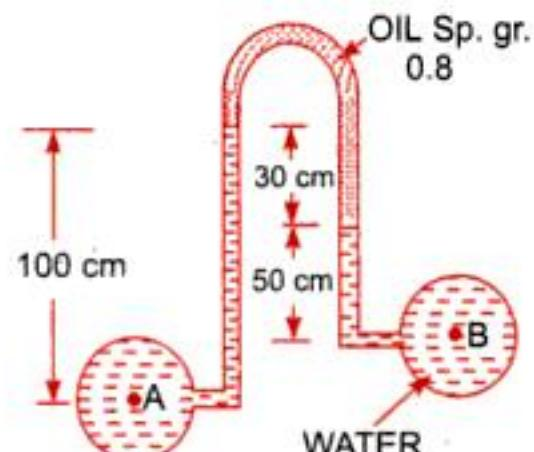

Fig. 2.26
16. In above Fig. 2.26 shows an inverted differential manometer connected to two pipes *A* and *B* containing water. The fluid in manometer is oil of sp. gr. 0.8. For the manometer readings shown in the figure, find the difference of pressure head between *A* and *B*. [Ans. 0.26 m of water]